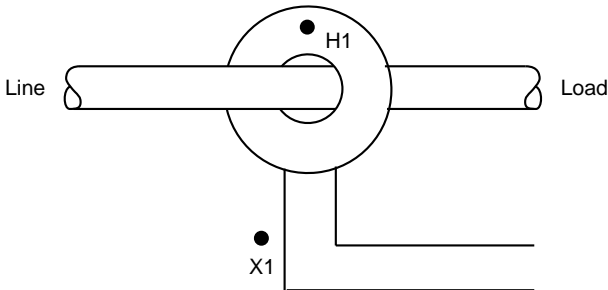

**Figure 3.**
As in voltage measurement, current may be measured by the direct connect method or using a current transformer (CT) as a step down device. Figure 3, on the next page, shows the direct connect method with a current transducer.